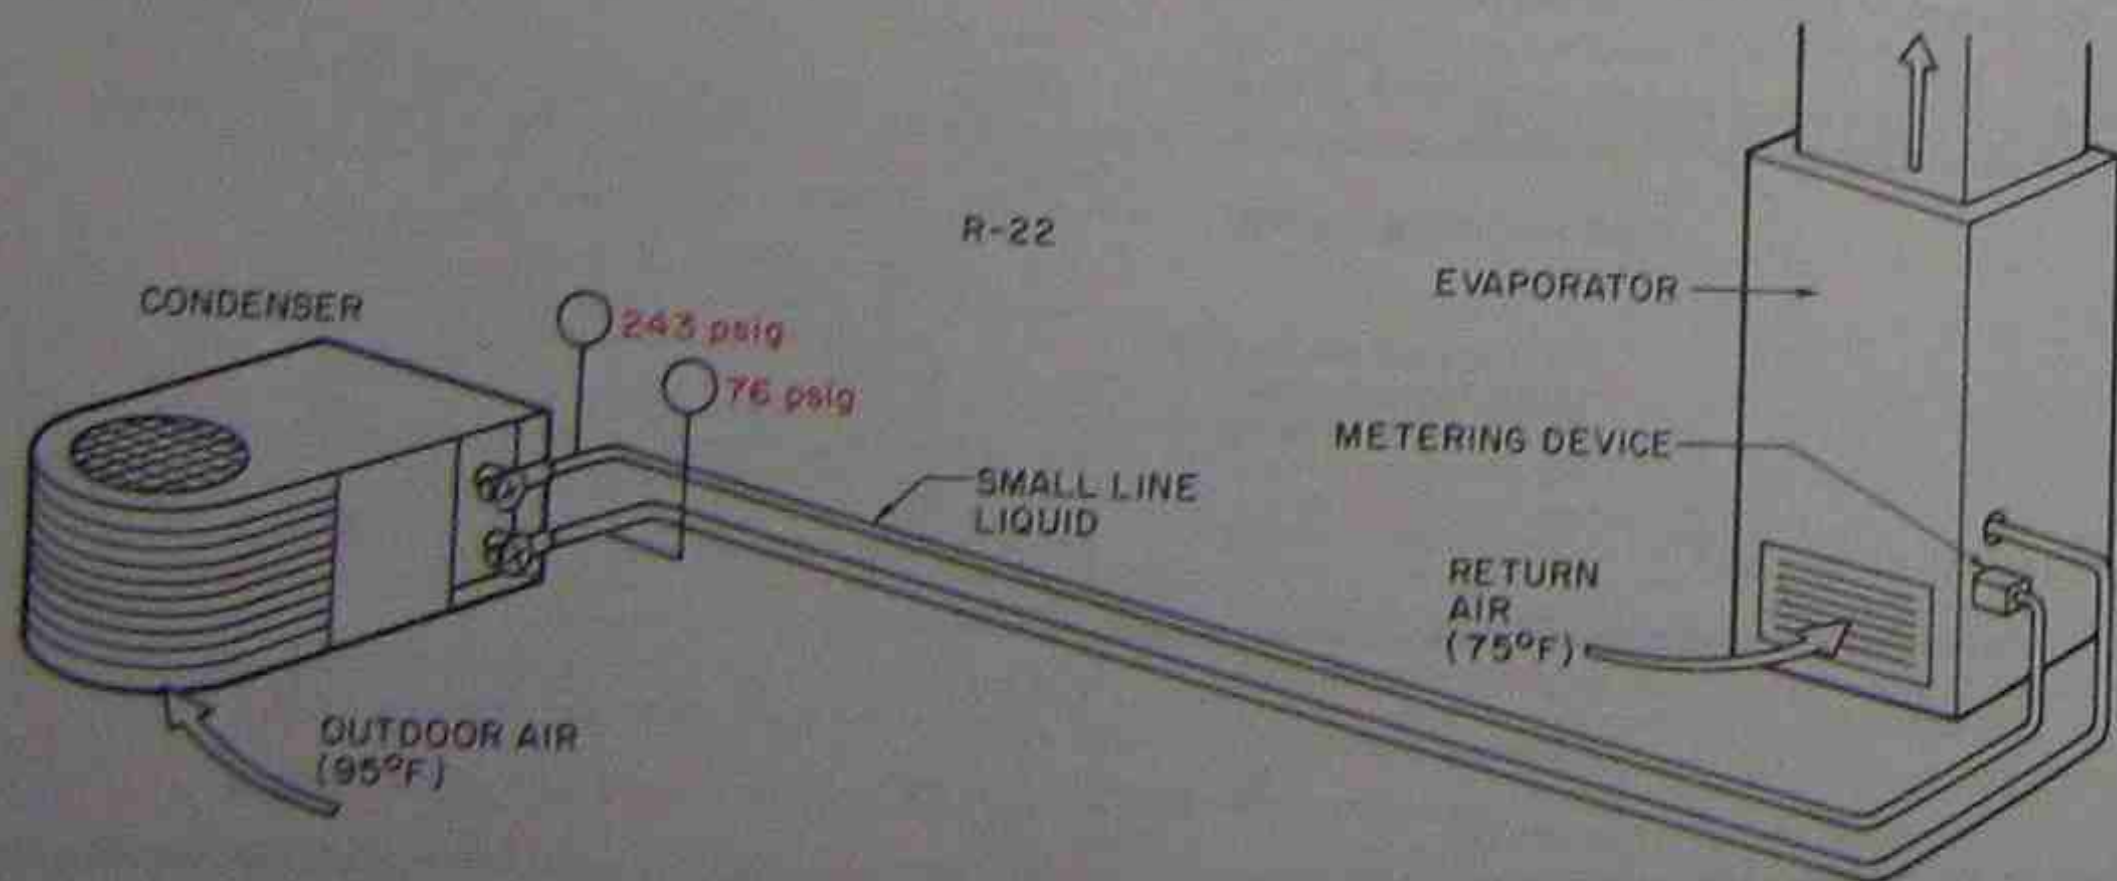

Figure 42-17. High efficiency system operating conditions, 45°F evaporator temperature and 115°F condensing temperature.
equipment is larger. The boiling refrigerant temperature may be 45°F with the larger evaporator at design conditions, and this would create a suction pressure of 76 psig for R-22 and be normal, Figure 42-17. R-12 is not mentioned in this coverage of high-efficiency equipment because it is not being used.
- The refrigerant may condense at a temperature as low as 20°F more than the outside ambient temperature. For a 95°F day with R-22, the head pressure may be as low as 243 psig, Figure 42-17. If the condensing temperature were as high as 30°F above the ambient temperature, you should suspect a problem. For example, the head pressure should not be more than 277 psig on a 95°F day for R-22. This will be covered later.